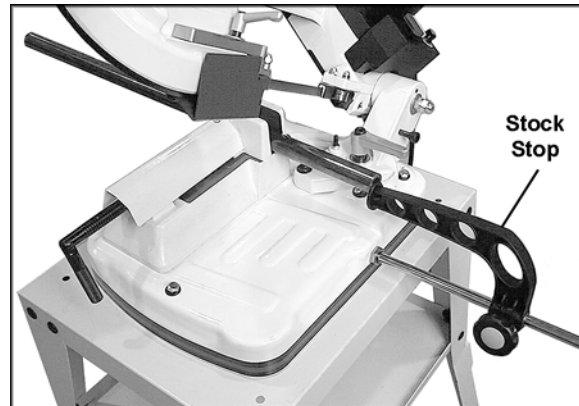

Figure 7
4. Slide the stock stop onto the rod and tighten the knob (see Figure 7).
The stock stop is useful for making multiple cuts of the same length. Simply determine the stock stop's position, then place the end of successive workpieces against the stock stop. See Figure 7.